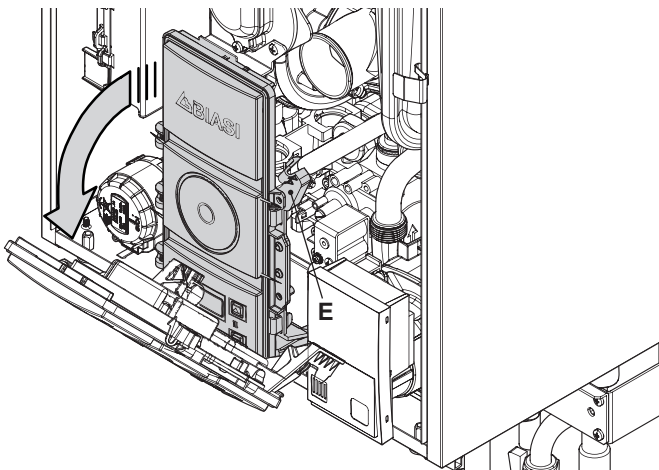

Figure 2.6
- 4 To access to the parts located behind the control panel to free the hook E and turn it as shown in Figure 2.6.